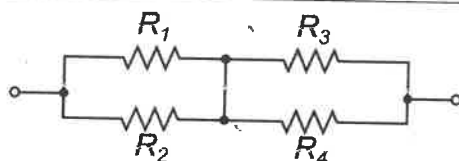

Figure 3: Solder four resistors as shown in the diagram.
4. Solder the four resistors as shown in Fig. 3. Calculate the total resistance of the combination using the measured values of resistors. Measure the total resistance of the combination,  $R_T$ , using your multimeter. Comment on any difference.